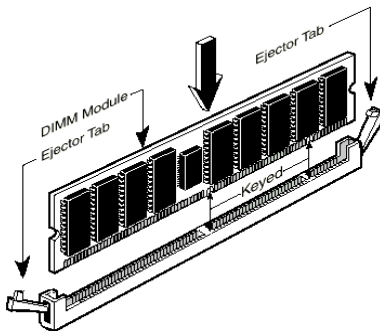

Figure 2-4. Memory module installation
Step 5. Insert the DIMM module into the expansion socket as shown in the illustration. Note how the module is keyed to the socket. You can refer to Figure 2-4 for the details. ***This insures the DIMM module will be plugged into the socket in one way only.*** Firmly press the DIMM module into the DIMM socket, making certain the module is completely seated in the DIMM socket.